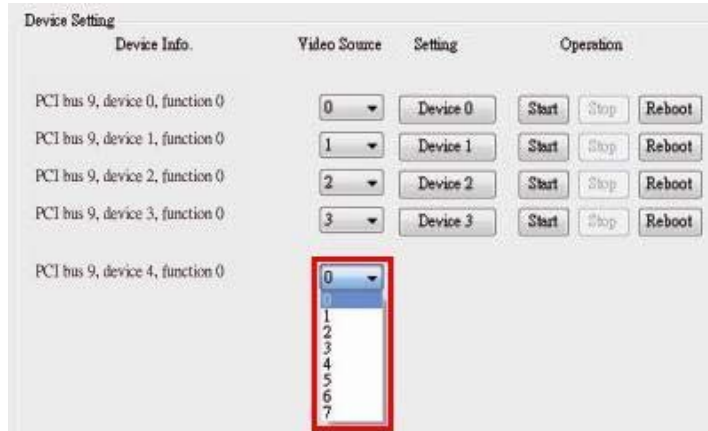

Figure 4-7: Select Transmitter Bus for HDC-304E
Step 6: **This step is only required for the HDC-302E.** Select the transmitter bus (2 or 3) (Figure 4-7). For example, when the Device0 button is selected to decode the encoded file, please select 2 from the device2 (transmitter bus) drop-down menu to display the video on HDMI display device via video output port. Please refer to the following table:
Step 7: **This step is only required for the HDC-304E.** Select the transmitter bus from 4 to 7 (Figure 4-7). For example, when the Device0 button is selected to decode the encoded file, please select 4 from the device4 (transmitter bus) drop-down menu to display the video on HDMI display device by output kit. Please refer to the following table: